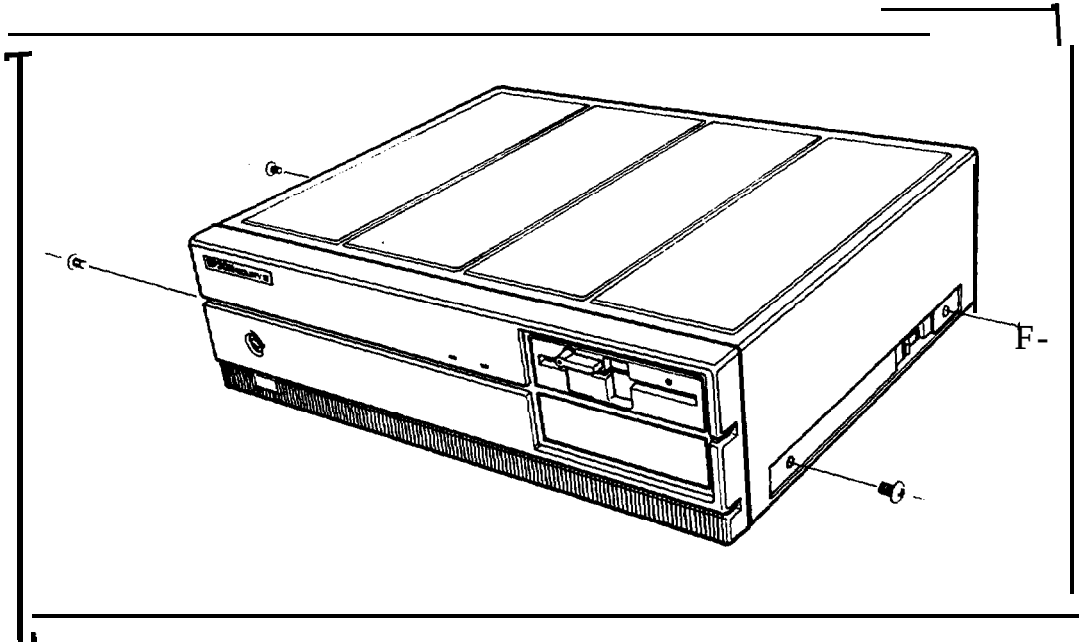

Figure 4-1. Top cover screws
3. As shown in Figure 4-1, the top cover is secured by four screws, two on each side of the computer. Remove the screws on both sides of the computer and put them all safely to one side.